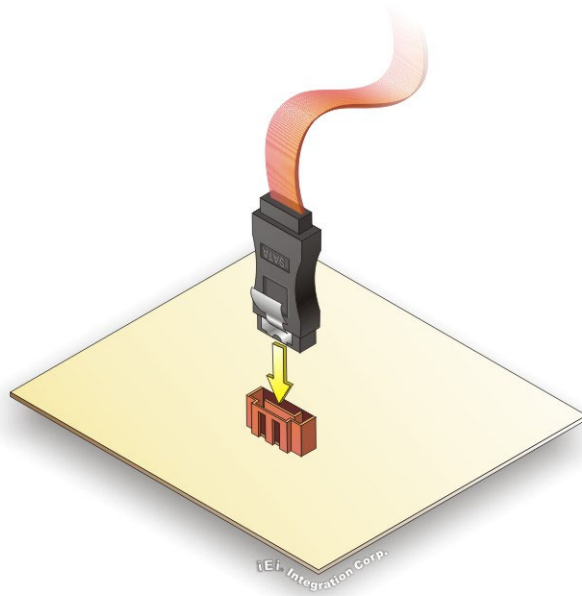

Figure 4-18: SATA Drive Cable Connection
Step 2: Insert the cable connector. Insert the cable connector into the on-board SATA drive connector until it clips into place. See **Figure 4-18**.